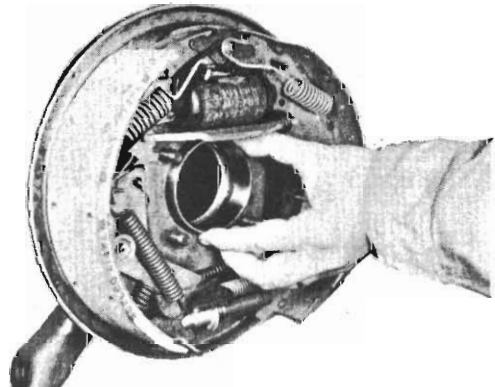

Fig. 6 - Installing bearing cup
(2) Install the bearing cup into the housing ensuring that it seats against the back face of bearing (Fig. 6).